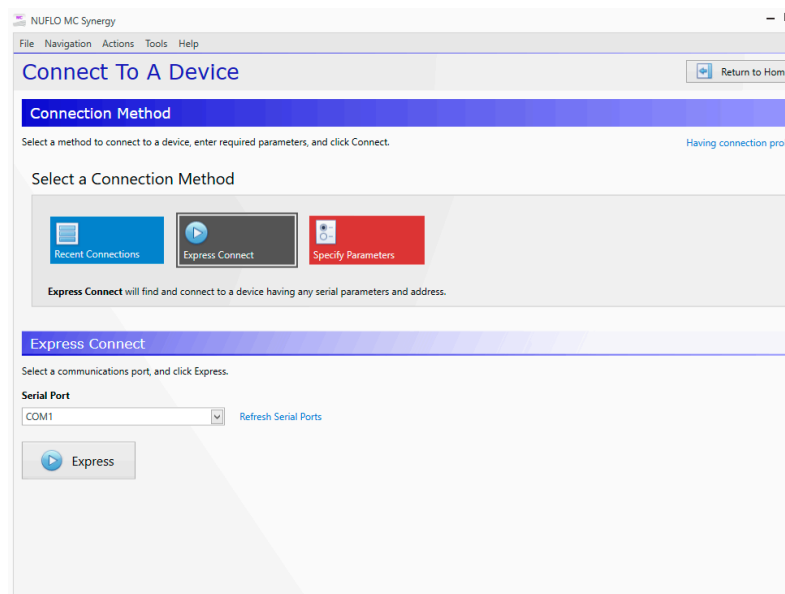

Figure 2.23—Software connection screen
4. Under Select a Connection Method, click EXPRESS CONNECT (Figure 2.23).